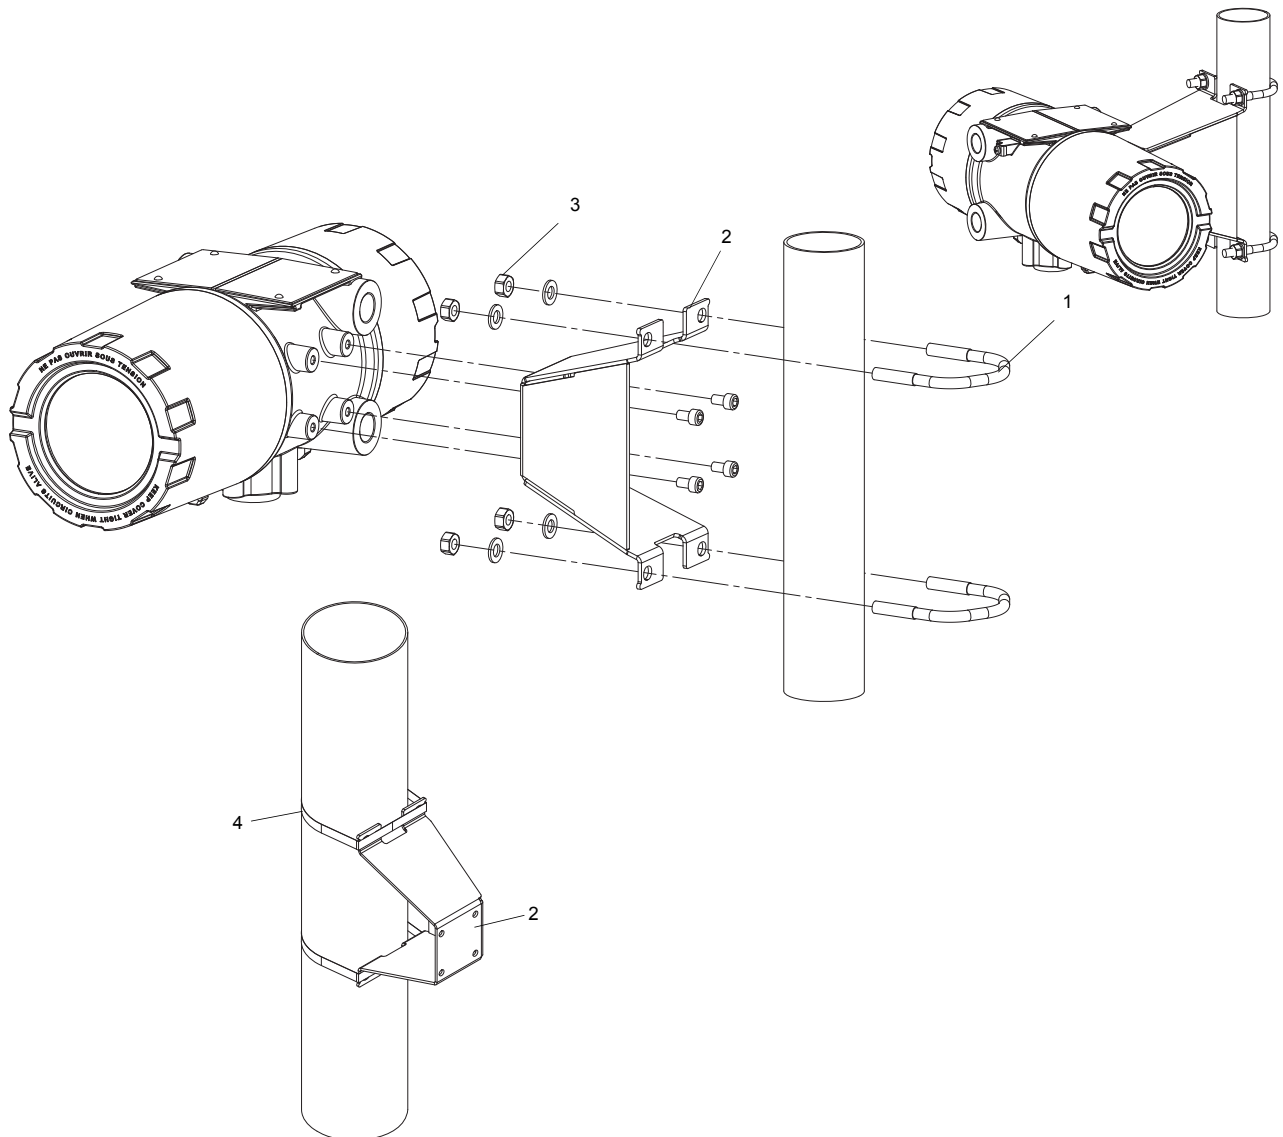

Fig. 6.3: Pipe installation
The instrument mounting plate (2) is fixed to the pipe using a shackle (1) (see Fig. 6.3).
- Tighten the nuts (3) to fix the transmitter with the shackle to the pipe.